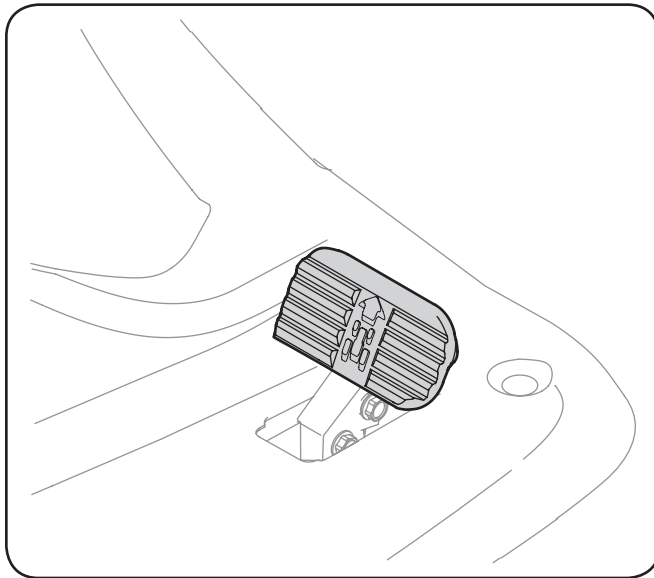

Figure 5-1
2. To travel FORWARD, move the shift lever into the forward position, slowly press the drive pedal forward until the desired speed is achieved. See Fig. 5-1.